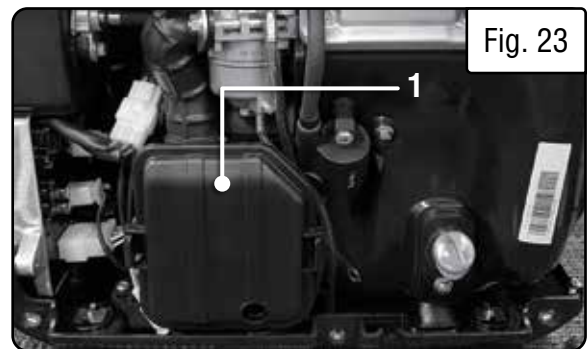

Fig. 23
2. Open the air filter cover (Fig. 23 - 1), and remove the air filter foam element from the casing.